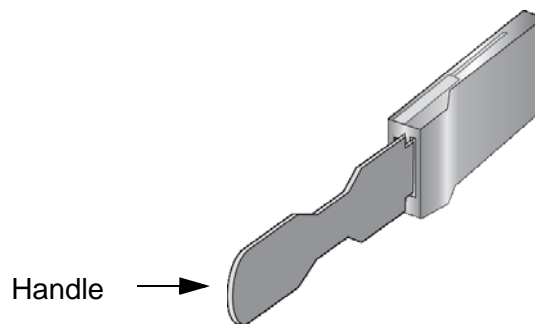

Figure 97. Handle on 100Gbps Transceivers for the XEM2-1CQ Line Card
- ❑ 100Gbps transceivers for the XEM2-1CQ line card have handles. Use the handles when installing or removing transceivers. An example is shown in Figure 97.